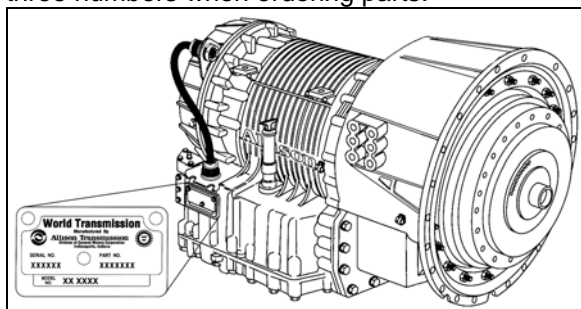

FIGURE 2: ALLISON TRANSMISSION
The transmission identification plate is located on the oil level dipstick side of the transmission (WT) (Figure 2). The identification plate shows the transmission serial number, part number (assembly number), and model number. Use all three numbers when ordering parts.